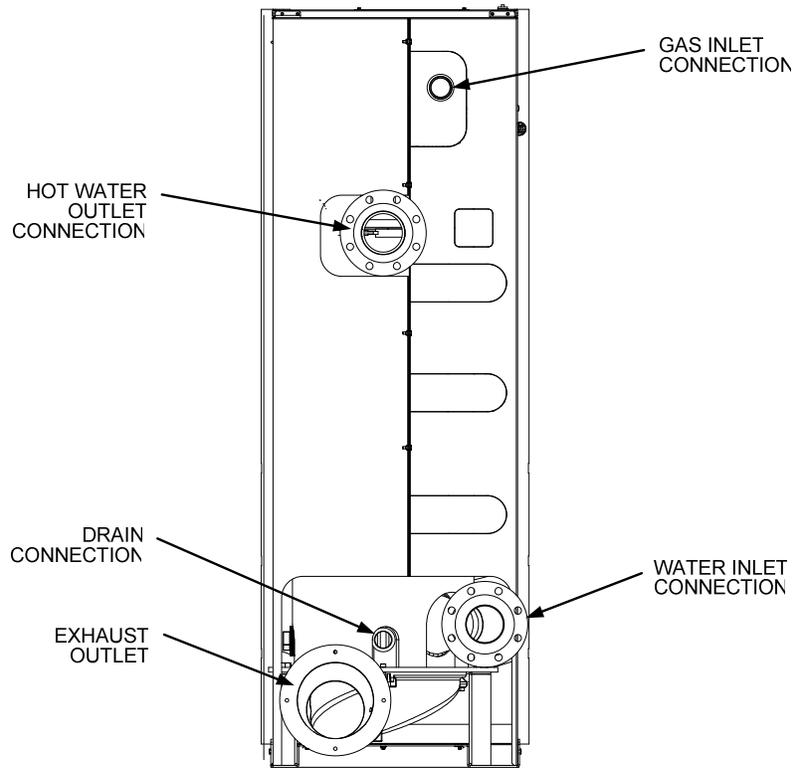

Figure 2. Benchmark 2.0LN (VFD Design) - Rear View
Benchmark 2.0LN Models contain a single heat exchanger as shown in Figure 2. Perform the waterside inspection as follows:
3. At the rear of the unit (Figure 2), slowly open the drain valve and drain the boiler water from the heat exchanger.